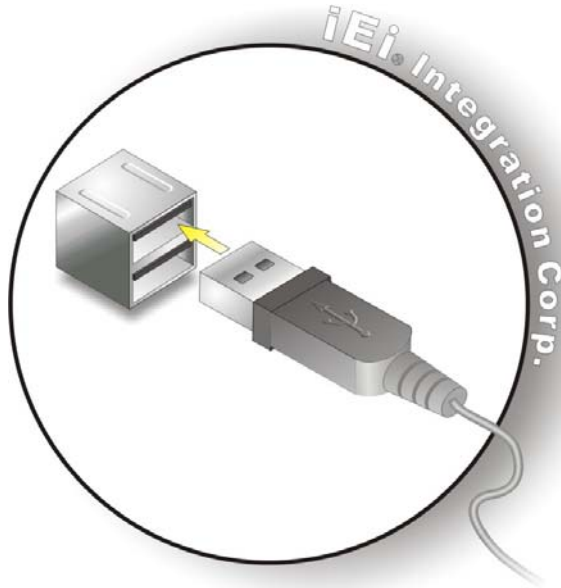

Figure 4-12: USB Connector
Step 2: Insert a **USB Series "A" plug**. Insert the USB Series "A" plug of a device into the USB Series "A" receptacle on the external peripheral interface. See Figure 4-12.